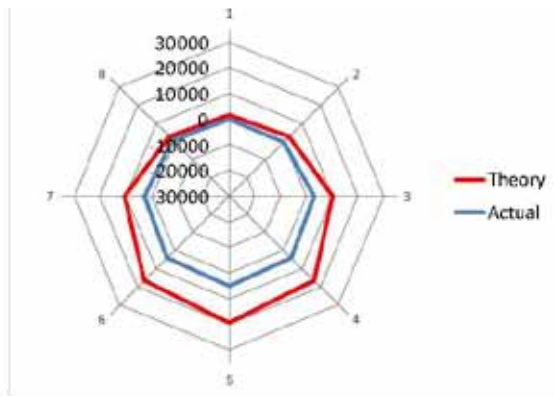

Fig.20 Circumferential strain (75D)
2. The results are presented in Fig.20 and Fig.21, which shows the strain (ϵ) concerned 2 directions each 8 points around the pipe as shown in Fig.19. We have extra advantage for circumferential behavior as shown in Fig.20. Theory seems to be similar behavior to actual strain for longitudinal direction as shown in 21.
4. Report No 9391 Testing of glass fibre reinforced PE-GF 400 pipes produced by KRAH AG(D) with PE XS10B compound (TOTAL PETROCHEMICALS(B))BECETEL Fig.20 Circumferential strain (75D) Fig.21 Longitudinal strain (75D) Fig.22 Advantage for circumferential Fig.23 Advantage for longitudinal